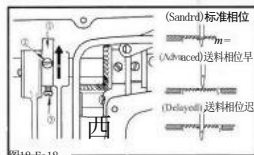

图18-Fe18
12 . 送料相位的调节 (图18)
12.ADJUSTING THE FEED TIMING (Fig.18)